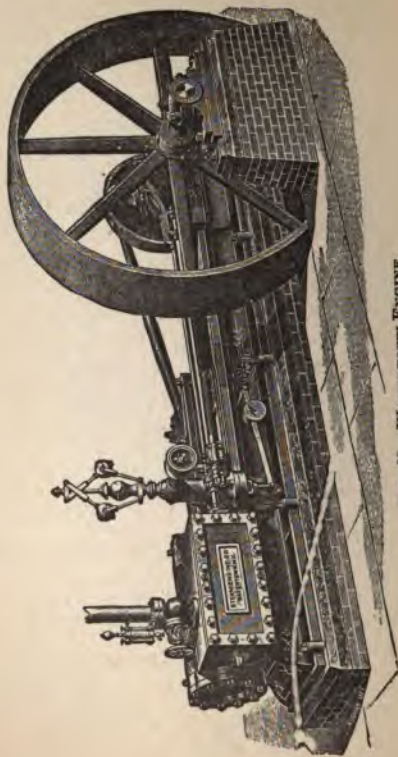
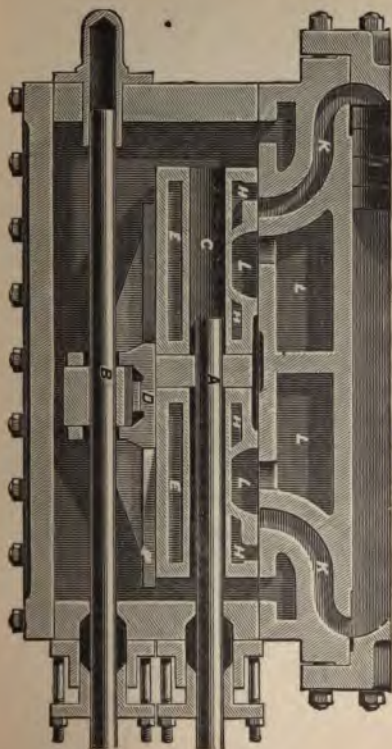

FIG. 63. WATERTOWN ENGINE.
FIG. 65. WATERTOWN ENGINE, HORIZONTAL CENTRAL LENGTHWISE SECTION.
A. This engine (see Figs. 63 and 143) has a box-bed, locomotive guides, and separate outboard bearing ; chest on the side; fly-ball governor, disc crank. The main valve (see section, Fig. 65) plays on a